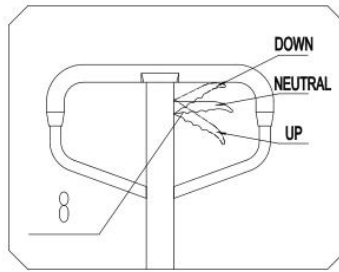

Figure 4
2.1.7 Use the handle to shake it, and operate and control the different gears of knob 8 to see whether the car rises, neutral and falls normally. See Fig. 4.